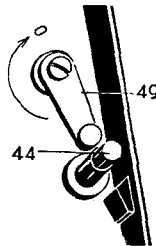

Fig. 11
To soften the sound of the audible signal or silence it altogether, push the small lever (49) (located inside the camera, alongside pin (44) of the counter—see Fig. 11) towards '0'.